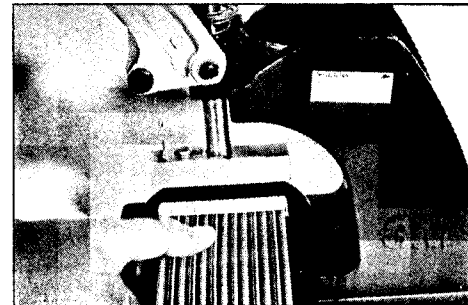

figure 8
- b) **Socket Connector 6964-000x:** Place connector/ cable subassembly in the locatorplate guide with cover side down. (fig. 8)